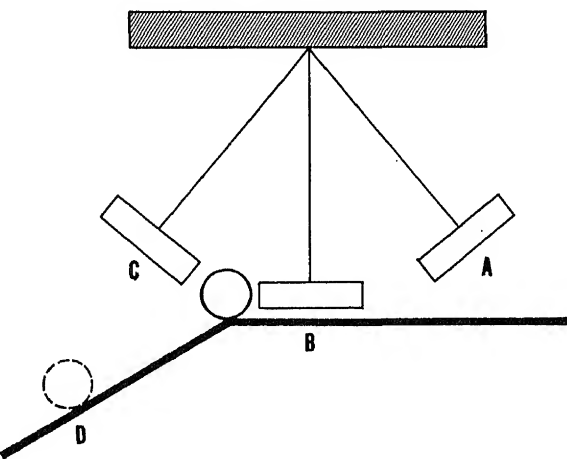

Figure 6A.-Transformation of energy.
2. Refer to figure 6A and select from the following alternatives when answering items 2 through 6-7.